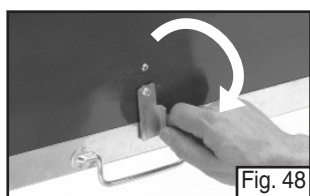

Fig. 48
- Slide Grease Tray back into position under grill and lock tab. (Fig. 48)